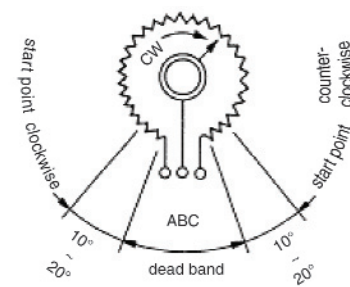

Fig.8 Potentiometer (IP8100)
- Adjust the zero / span with the variable resistors on the p.c.board (refer to Fig.8).
- Loosen the potentiometer set screw while applying power and ensuring an output current, then rotate the potentiometer 10-20° away from the dead band (see Fig.8) to decide the start point. Settle the potentiometer with the set screws again.